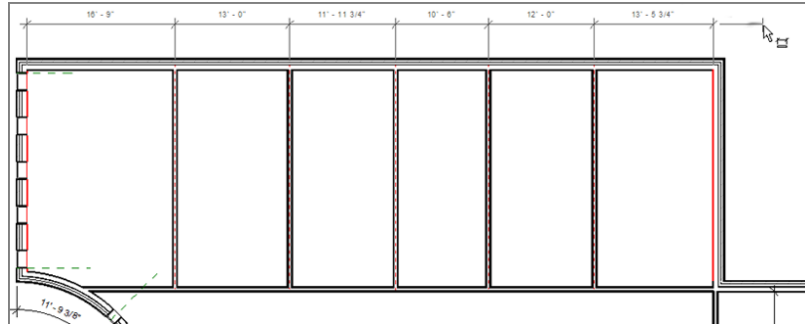

FIGURE 5.30: Pick a point away from the last dimension to place the string.
4. Placing a dimension in Revit is a little awkward, but you'll get the hang of it. You need to pick a point away from the last dimension in the string, as shown in Figure 5.30, almost as if you're trying to pick another item that isn't there. When you do this, the dimension will be in place.